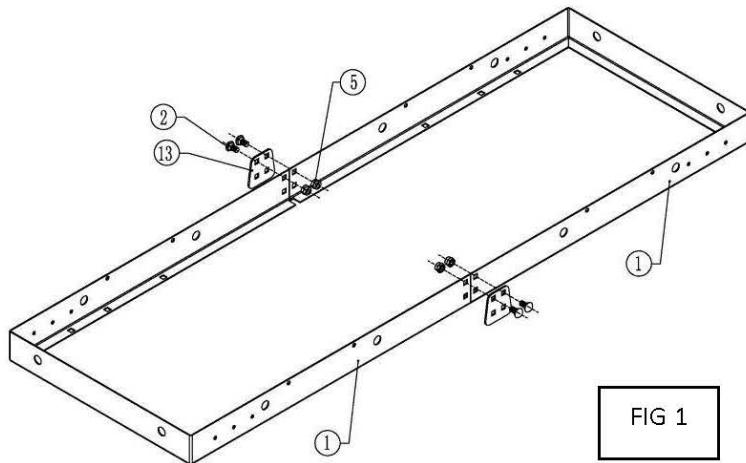

FIG 1
Step 1 Align platform angle side holes (upper 2 holes), connect the platform (1), and connecting plate (13), together with M10*20 carriage bolt (2), and M10 locknut (5), **(80% tightness)**. See FIG 1